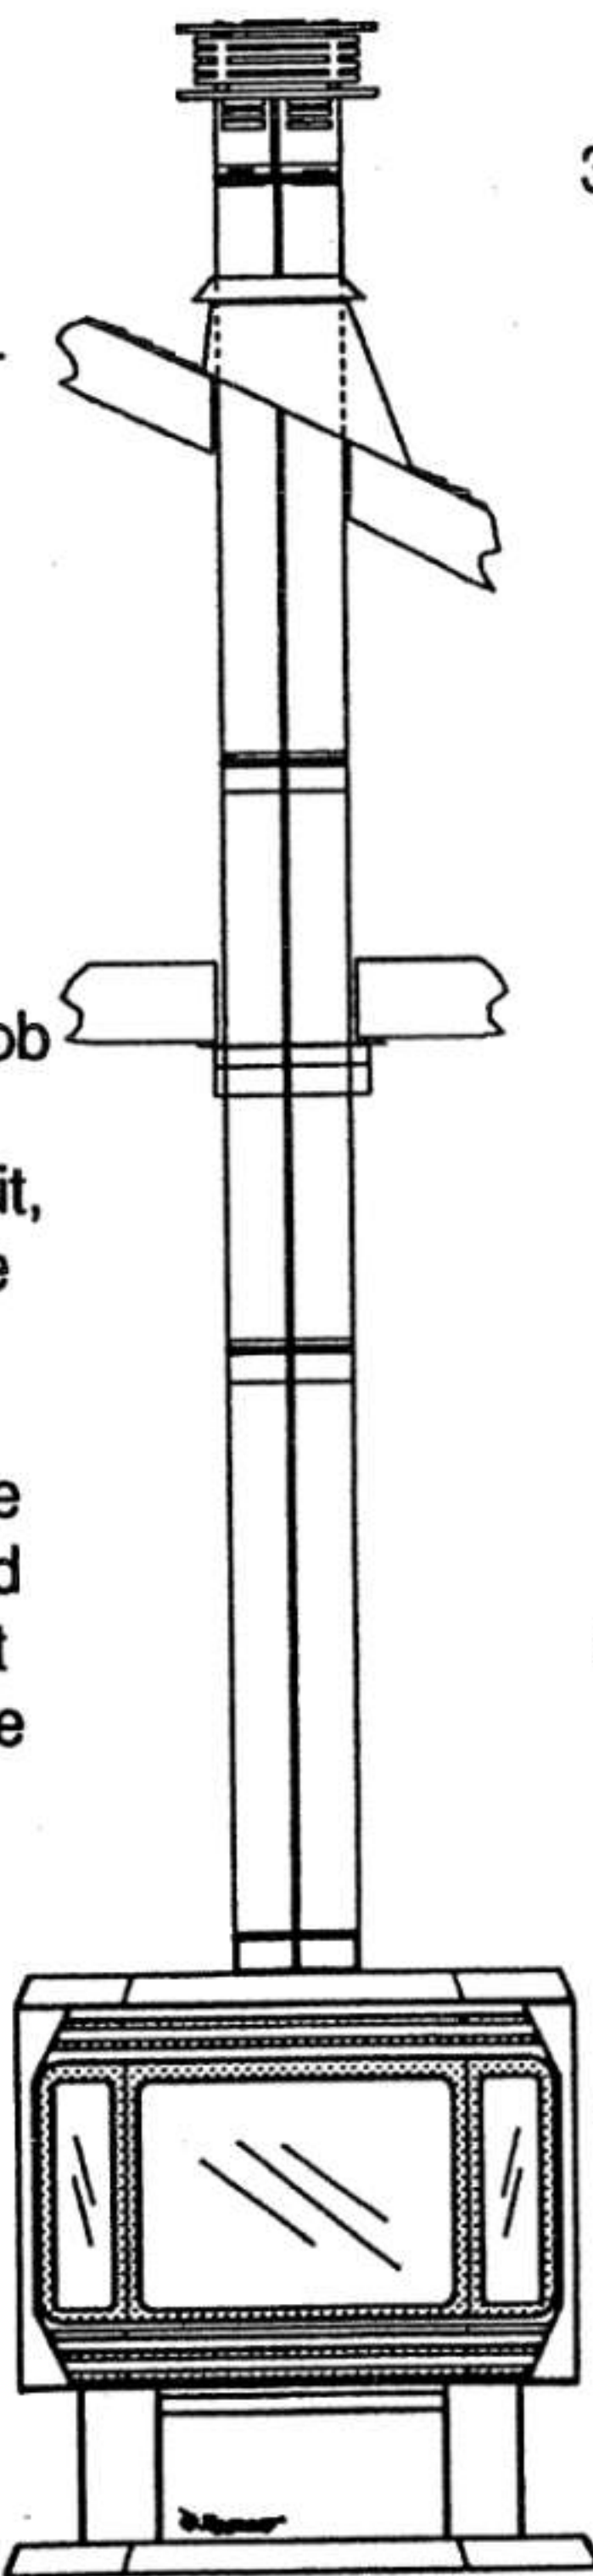

Fig. 6
- 1) Maintain the 1-1/4" clearances (air spaces) to combustibles when passing through ceilings, walls, roofs, enclosures, attic rafter, or other nearby combustible surfaces. Do not pack air spaces with insulation. Check pages 10 and 11 for the maximum vertical rise of the venting system and the maximum horizontal offset limitations. Fig. 6.